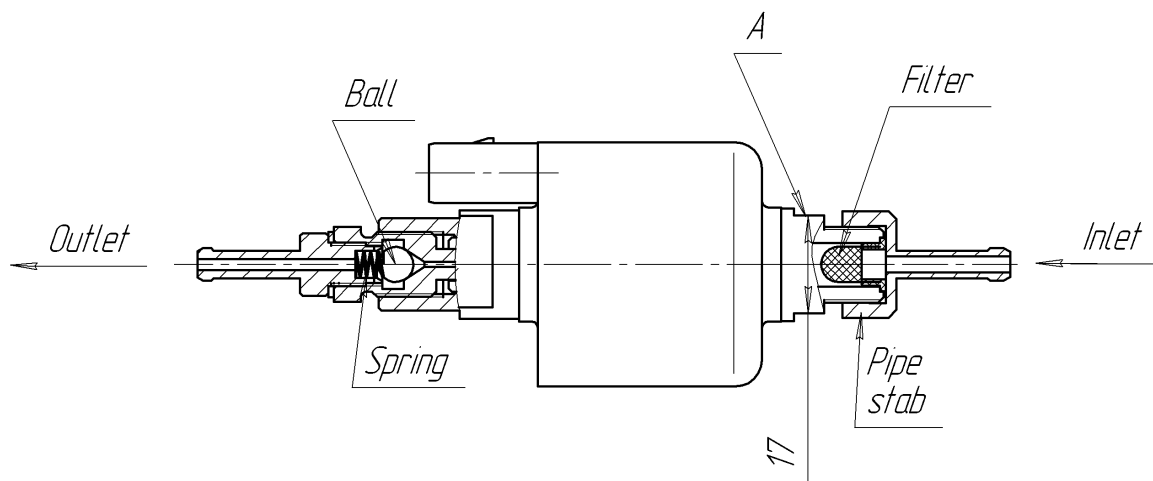

Figure 10. Fuel pump
- 1) remove the fuel supply pump from the vehicle; using a wrench (F/A 17), fix the pump in place, unscrew the pipe stub and remove the filter (see figure 10). Do not fix the pump in place using surfaces other than surface A when removing and installing the pipe stub;